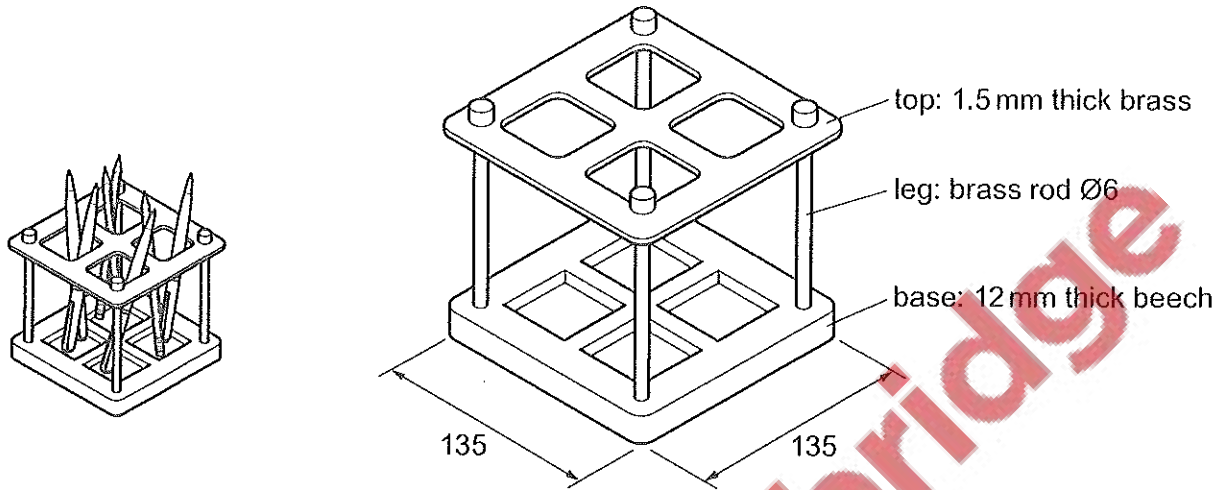

Fig. 11.1
- 11 Fig. 11.1 shows a pen and pencil holder.